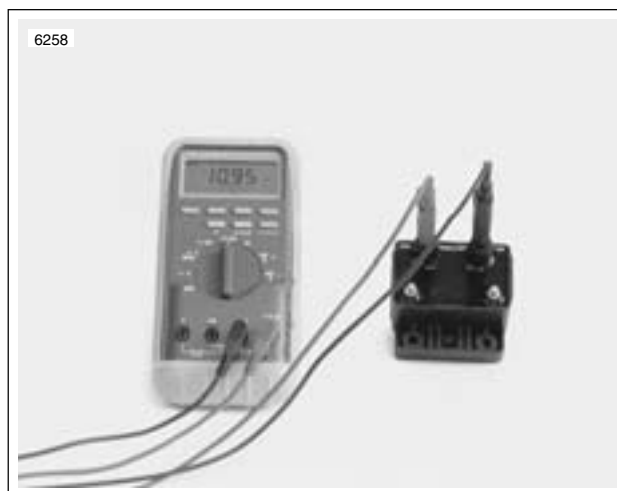

Figure 7-20. Ignition Coil Secondary Resistance Test
3. See Figure 7-20. Place multimeter wires on secondary coil windings.